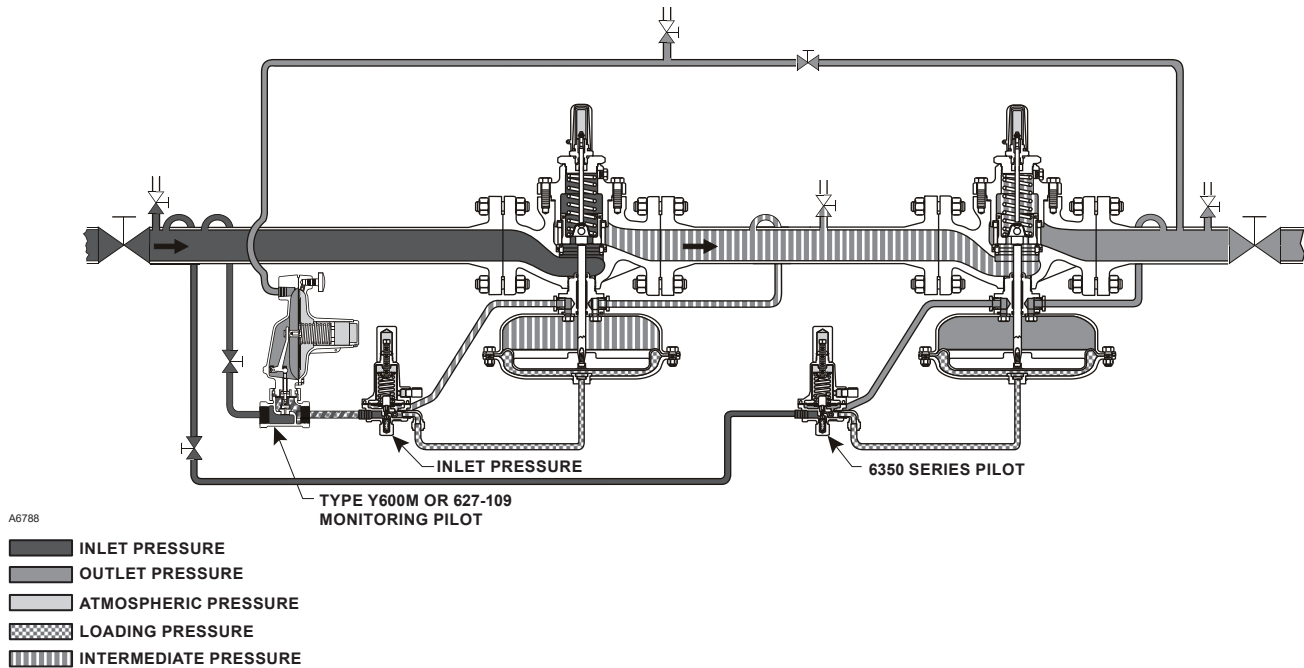

Figure 6. Typical Working Monitor Installation
Working Monitor (Figure 6)
2. Connect another downstream pressure control line and hand valve (Figure 6) to the monitoring pilot according to the monitoring pilot instruction manual. Attach a 1/2 NPT pressure control line and hand valve from the intermediate pressure pipeline to the working monitor regulator. Pipe supply pressure between the monitoring pilot and the working monitor regulator according to the monitoring pilot manual.
On a working monitor installation (Figure 6), be sure that the second-stage working regulator is set to operate at a pressure lower than the Type 1098-EGR or 1098H-EGR working monitor regulator. To do this, increase the setting of the monitoring pilot until the working pilot is in control of the intermediate pressure and the second-stage working regulator is in control of the downstream pressure. If this is not done, the monitoring pilot tries to take control of the downstream pressure.
- b. Install special piping (not shown in Figure 6) so that the monitoring pilot senses the intermediate pressure. The intermediate pressure then appears to the monitoring pilot as if it was increased downstream pressure and the monitoring pilot controls and reduces the intermediate pressure. Adjust the monitoring pilot setting until the desired emergency downstream pressure is achieved at the intermediate pressure stage. Then slowly close the special piping and open up the monitoring downstream control line for normal service.